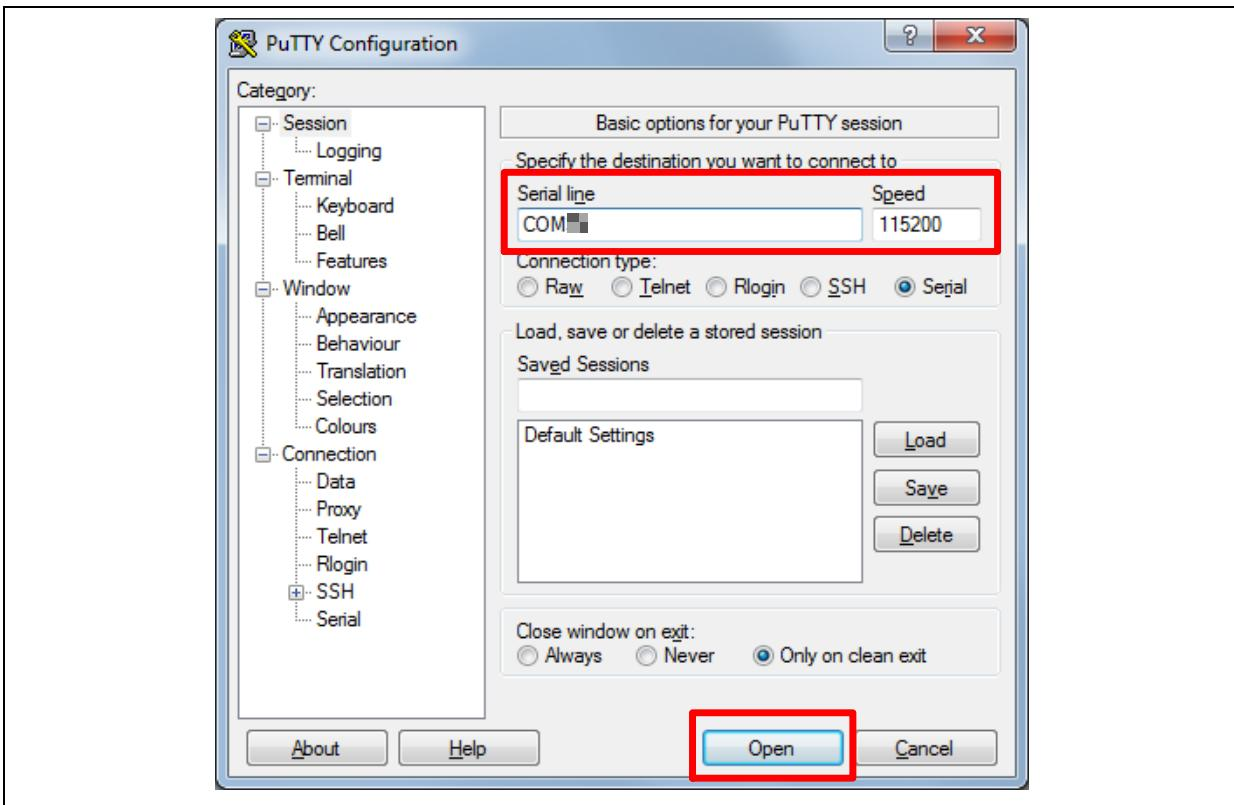

Figure 5-6 PuTTY Session Setting
4. Open a serial port terminal, PuTTY for example, to print out debug message. Set the speed to 115200. Figure 5-6 presents the PuTTY session setting.